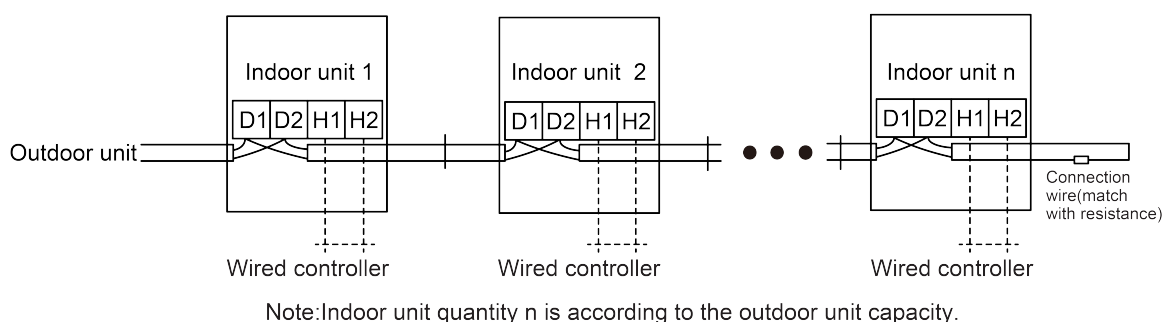

Fig.5.3.2
- (4) Fix the communication cable with clamp of electric box.
- (5) For more reliable communication, make sure connect the terminal resistor to the most downstream IDU of the communication bus (terminal D1 and D2), as shown in Fig. 5.3.2, terminal resistor is provided with each ODU.